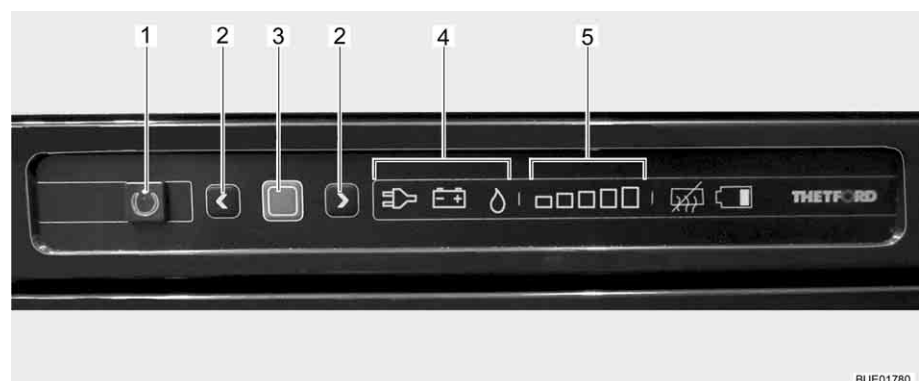

Fig. 218 Operating controls for the refrigerator
The current operating mode is indicated by an illuminated symbol (Fig. 218,4) on the operating unit.
When turned on the refrigerator automatically selects the thermostat position selected last. This position can be adjusted manually by using the arrow keys (Fig. 218,2). The illuminated bars of the cooling level indicator (Fig. 218,5) show the selected thermostat position. The refrigerating temperature for the three types of energy is set with the arrow keys. It takes a few hours till the refrigerator reaches its normal operating temperature. When changing over the operating mode the thermostat setting will be maintained. The refrigerating temperature is retained regardless of the type of power being used.
- Press and hold the On/Off button (Fig. 218,1) for 1 second. Button (Fig. 218,1) lights up green. To save energy, after approximately 10 seconds the display is dimmed.
- Press confirmation button (Fig. 218,3). The current setting of the operating is displayed.
- If the operating mode gas is not set: To change the setting, press and hold the confirmation button (Fig. 218,3) for approximately 2 seconds.
- Using the arrow keys (Fig. 218,2) select the operating mode gas. Gas supply is open. Ignition will take place automatically. A ticking sound can be heard until ignition has been completed successfully.
- Press and hold the confirmation button (Fig. 218,3) for about 2 seconds.
- Press confirmation button (Fig. 218,3) again. The current cooling level is shown by the illuminated bars (Fig. 218,5).
- To change the setting, press the arrow keys (Fig. 218,2) until the desired setting is displayed.
- Press and hold the On/Off button (Fig. 218,1) for about 2 seconds. All lights go out. Refrigerator is switched off.
- If 230 V operating mode is not set: To change the setting, press and hold the confirmation button (Fig. 218,3) for approximately 2 seconds.
- Using the arrow keys (Fig. 218,2) select the 230 V operating mode.
- If the 12 V operating mode is not set: To change the setting, press and hold the confirmation button (Fig. 218,3) for approximately 2 seconds.
- Using the arrow keys (Fig. 218,2) select the 12 V operating mode.